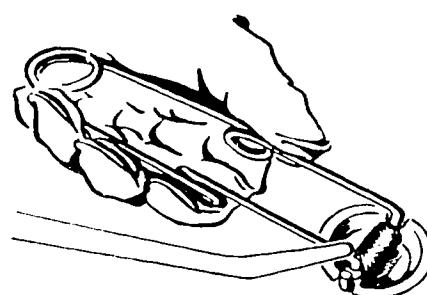

Figure 1-12. Lighting the torch.
**Lighting the Torch.** To light the welding torch, first open only the acetylene valve. Strike the flint igniter in of the tip, keeping your hand at one side, as shown in figure 1-12. Hold the torch so that the flame is directed away from the cylinders or manifold, the hose, any flammable material, and yourself. The pure acetylene flame is long and bushy and has a yellowish color. Since the oxygen valve is closed at this point, the acetylene burns in combination with the oxygen in the air. This is not efficient to burn the acetylene completely, and the result is, producing a lot fine unburned carbon. The pure acetylene flame is unsuitable to welding.